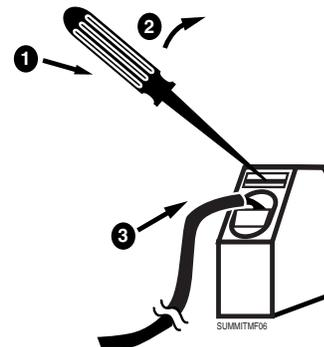

Figure 5. Opening Wire Clamp Window
2. Connect supply triggers to terminals: trigger wire #1 to trigger #1"+", trigger wire #2 to trigger #2"+ and so on, going from left to right as you face the terminal strip. As shown in Figure 5, insert a small screwdriver into the top hole to open the wire clamp windows.